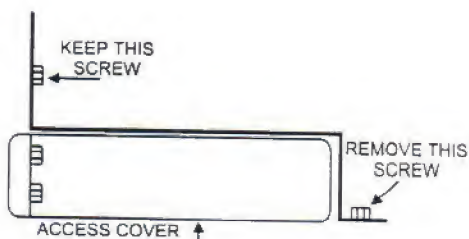

Fig 10. Coin Mechanism Covers
17. Reattach the electrical wires as shown in Fig 10, and test the switch (see step 4 above). You should see the green LED light up when the roller is lifted by the cam.